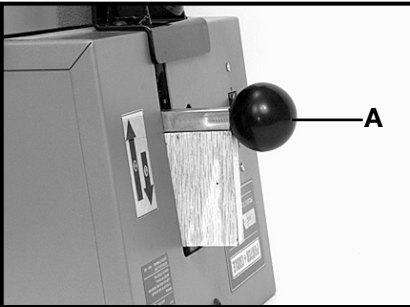

Fig. 23
1. Tilt machine onto its back (see Fig. 23).
3. Lift the machine operating lever (A) Fig. 23, and insert the piece of scrap wood as shown in Fig. 23.